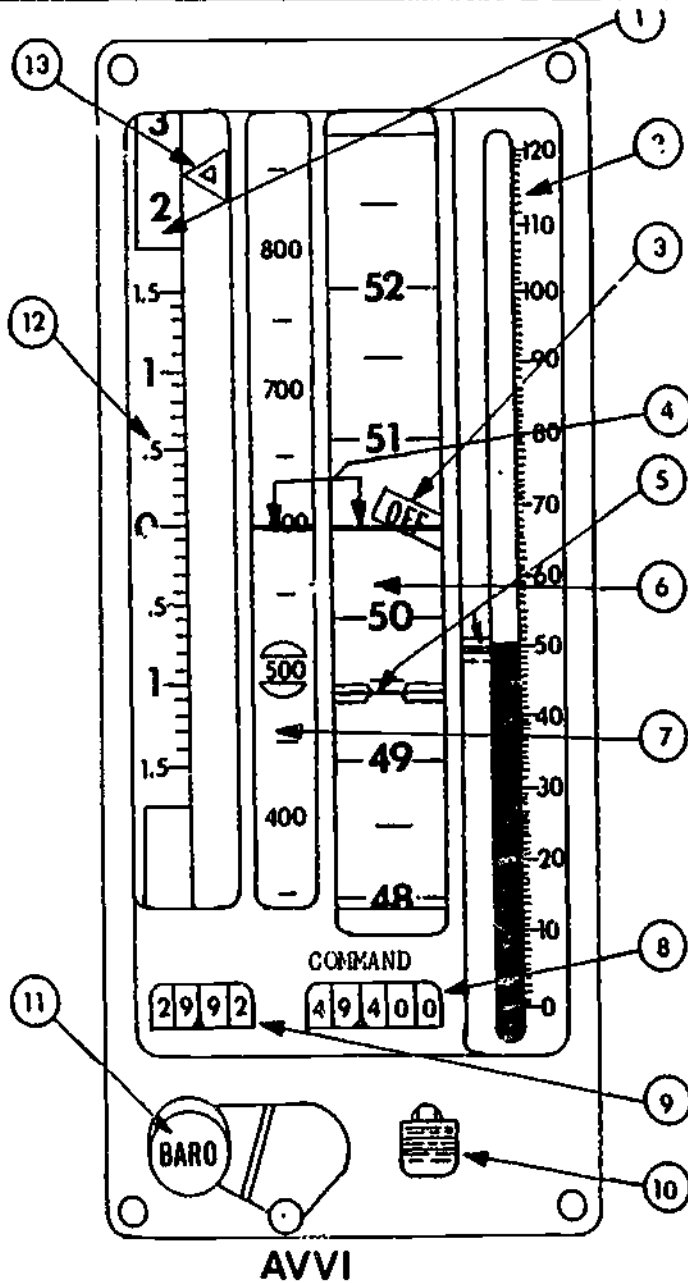

Figure 15.
Note: Match the numbered items in figure 15 to the statements below. Some numbers may be used more than once while some may not be used at all.
- a. controls item 11 in figure 15.
- d. is controlled by 9 in figure 15 in the manual mode.